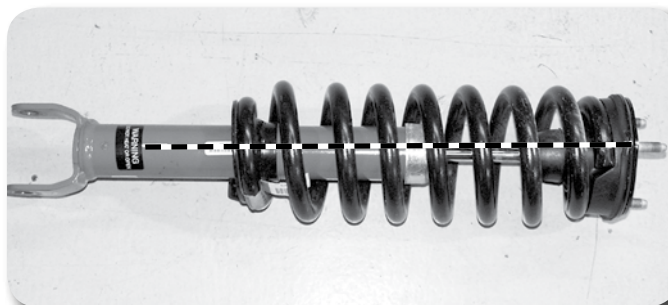

Figure 17
45. For 4" kits, skip ahead to step #49, the preload spacers are not required. Place indexing marks on the strut body, strut cap and upper coil seat **Figures 17, 18** for realignment of the components when the strut is reassembled.